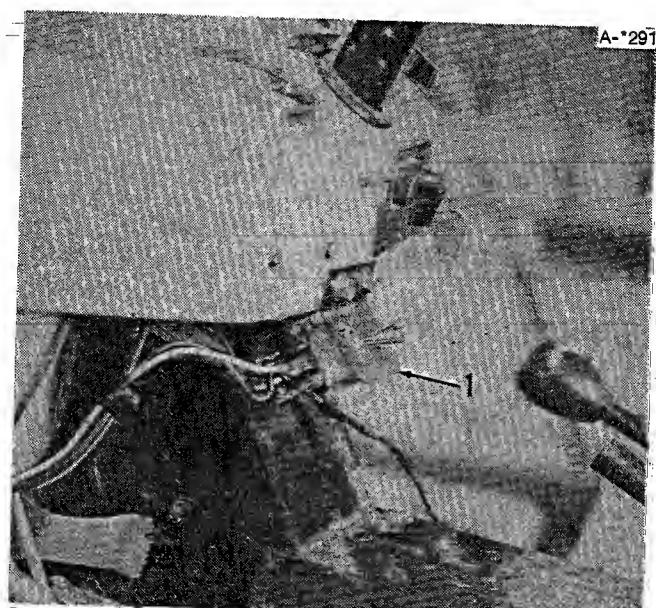

Figure 7.
- Remove the two bottom screws from the dash and use these screws to install the switch plate (figure 7).